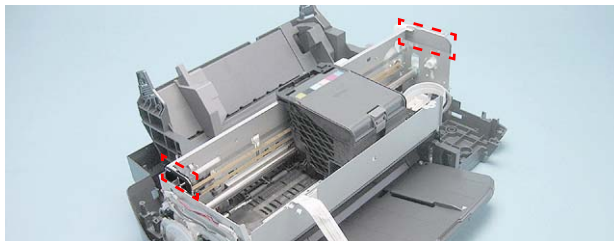

Figure 4-82. Handling the Printer Mechanism
3. Referring to ““Figure 4-82. Handling the Printer Mechanism (p.87)””, remove the Printer Mechanism from the Lower Housing.